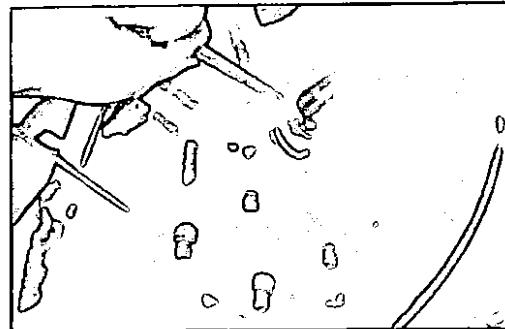

Fig. H.23 Removing the lower shock absorber attachment.
5. Remove the upper and lower rear shackle nuts (Fig.H.23.) and remove the rear spring from the vehicle.
Disconnect the lower end of the rear shock absorber from the spring seat (Fig.H.23.).